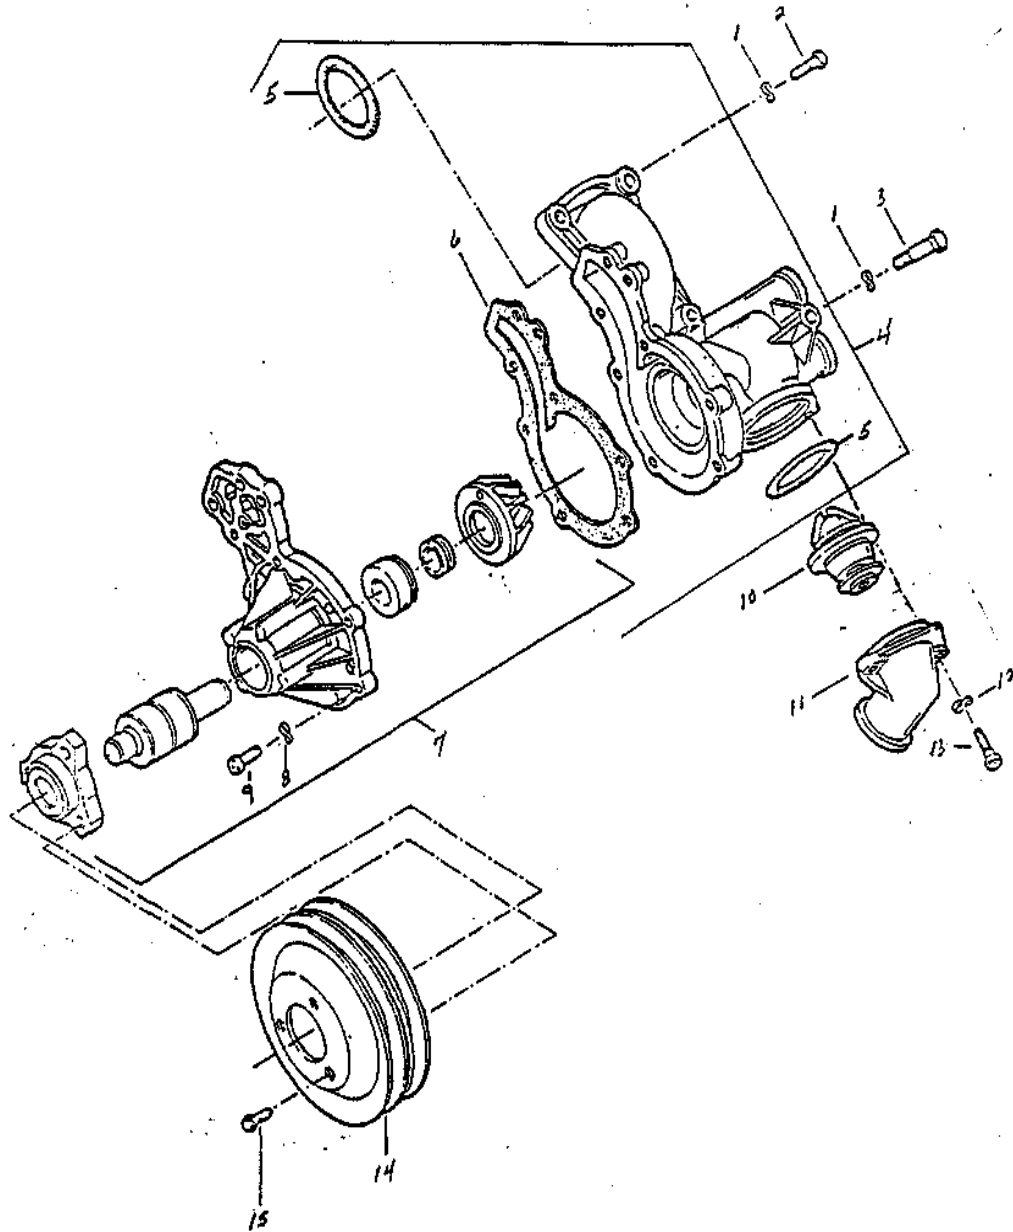

Figure 1 Water pump and thermostat
3.7 Torque standards.- Table IV lists the torque standards that shall be used when rebuilding the VW 1.7 litre coolant pump, refer to Figure 1 for component identification.
3.1.9 Upon completion of rebuild, the distributor shall consist of all the components listed in Table I. Figure 1 is provided for component identification and location within the distributor.
3.2 Distributor components.- Table I lists all of the components comprising the Bosch 24 V transistorized distributor; Refer to Figure 1 for component identification and location within the distributor.
3.3 Mandatory parts replacement.- Table II lists parts that shall be replaced with new OEM components during distributor rebuild; refer to Figure 1 for component identification and location within the distributor.
3.4 Possible missing components.- Table III lists components that may be missing from the distributor at time of disassembly. Missing components other than Mandatory Parts Replacement will be replaced with new or serviceable OEM components, refer to Figure 1 for component identification and location within the distributor.
- ii If resistance is not within standards .990 to 1.210 K ohms, replace the pick-up coil (Item 12, Figure 1).